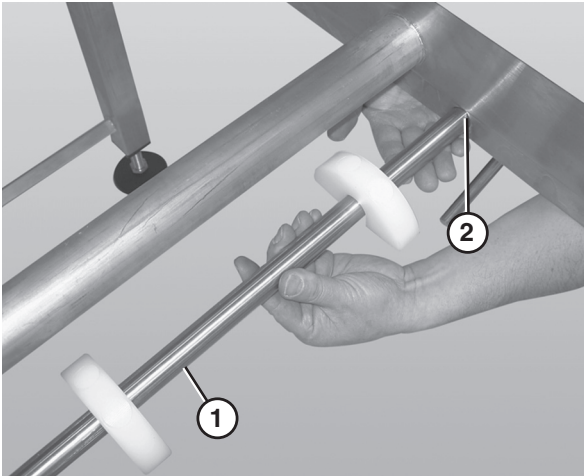

Figure 54
1. Remove the belt returns by pushing up on the return shaft (**Figure 54, item 1**) and sliding it through the large hole (**Figure 54, item 2**) in the frame.
2. Lower the opposite end of the return shaft (**Figure 54, item 1**) and slide it out of the frame.